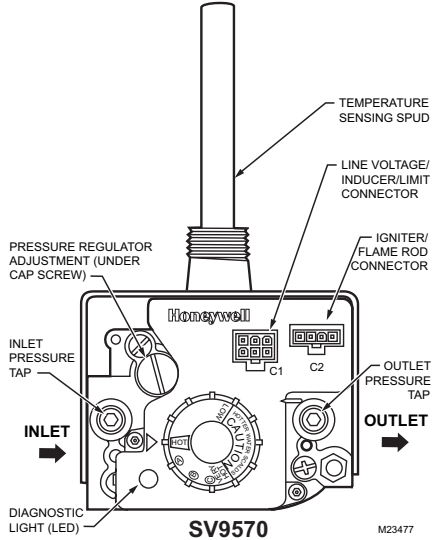

Fig. 5. Top view of water heater control.
2. With burner operating, check the water heater control flow rate using the meter clocking method or check pressure using a manometer connected to the outlet pressure tap on the water heater control. See Fig. 5.